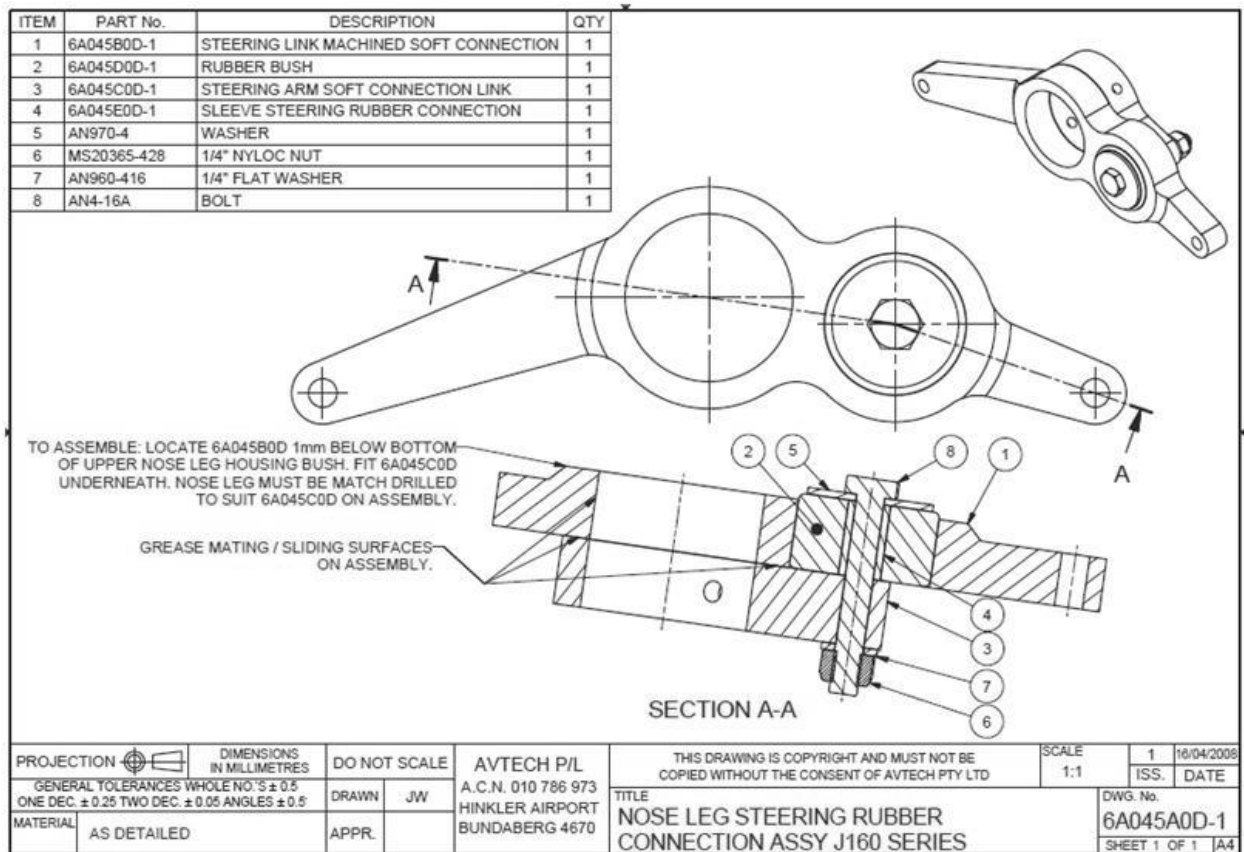
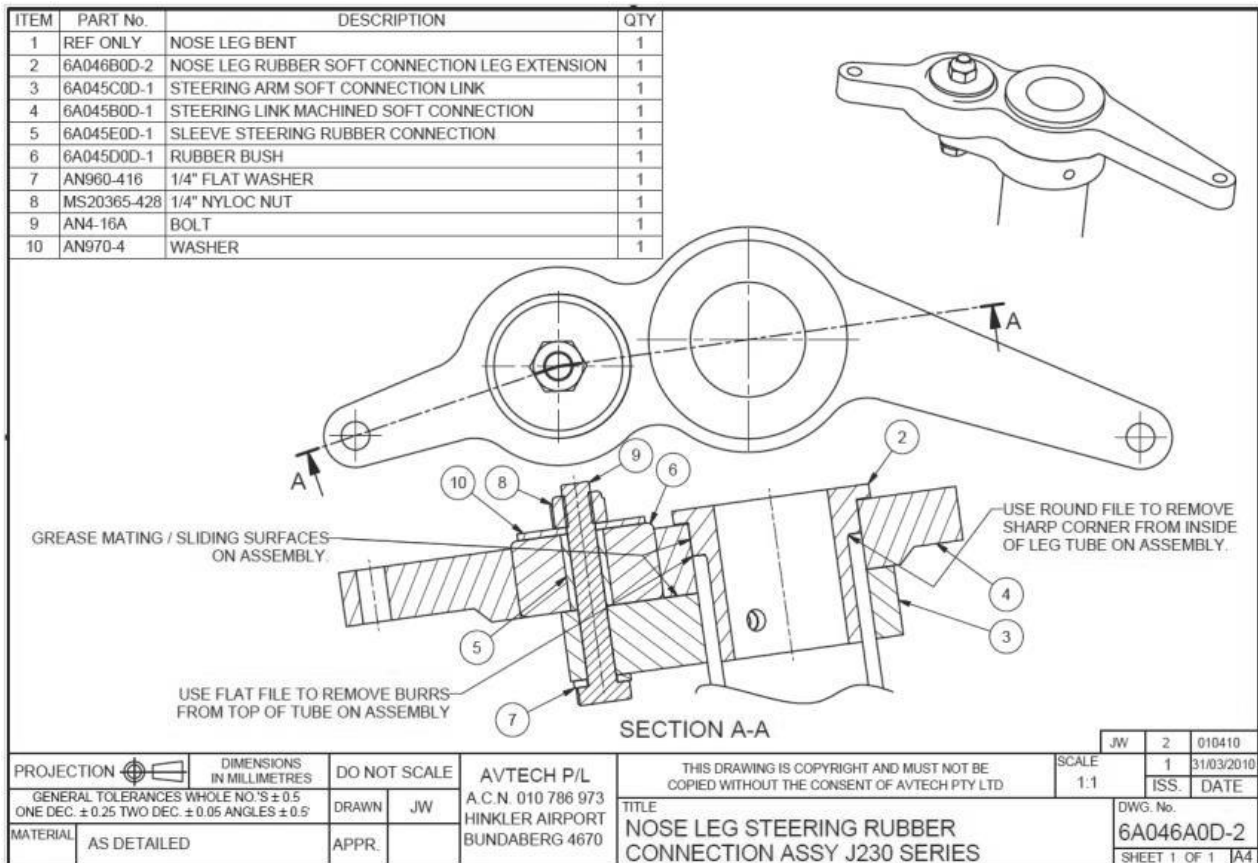

Figure 79 – Nose Leg Soft Link Assy, J160 Family (J120, J160, J170)
Figure 80 – Nose Leg Soft Link Assy, J200 Family (J200/400, J230/430, J250/450)
- For all models the nose wheel steering system consists pushrods directly connecting the rudder pedals to the nose leg assembly. The systems are shown in Section 0. For some models a “soft link” is fitted between the nose leg and the rudder pedals to absorb vibrations. Details of this assembly are shown below (Figure 79 and Figure 80).